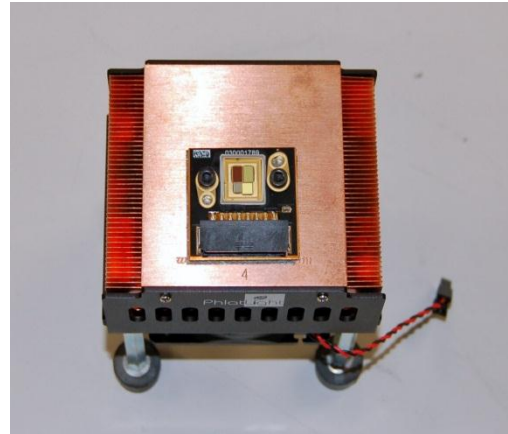

Figure 9: Device mounted on heat sink
- Insert screws in the holes of the coreboard and tighten. To ensure equal pressure is exerted by all screws, alternate tightening each screw until the board is securely fastened. The device is now mounted and ready for electrical connections (Figure 9).